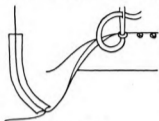

FIGURE 128
*French Hem* (Figure 128). — This hem is made just like the plain hem except that it is turned to the right side instead of to the wrong side of the garment.